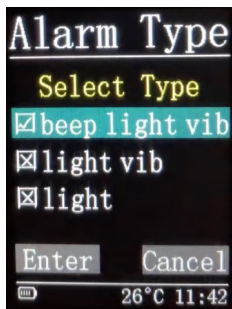

fig 34
b) The alarm type are optional of light, sound and vibration, as Fig.34